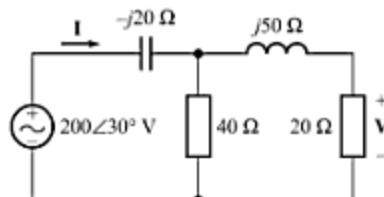

Fig. C-58
- C-89. Use voltage division twice to find  $\mathbf{V}$  for the circuit shown in Fig. C-58. [Ans.  $81.8\angle 6.15^\circ \text{ V}$ ]